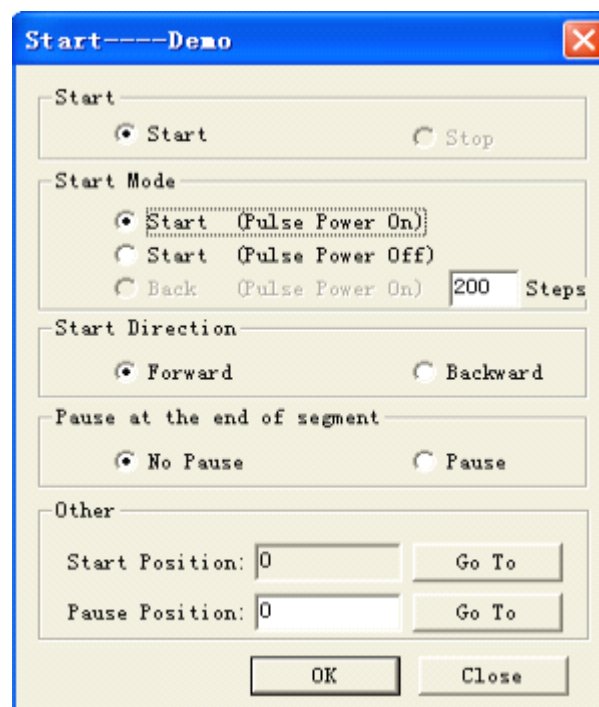

Figure 5.12: Start Processing
6) Startup picture (Figure 5.12): Control software can display the franchiser picture as startup picture when running the software, Display types include: not display, auto close after display the set time, continue display until manual close it.
After finishing the above selection, click the “OK” button to start processing, the originally “Start Process ” button will display “Pause Process”, user can click the button when need pause the processing, the above dialog (Figure 5.12) will be displayed for user to deal with corresponding things.